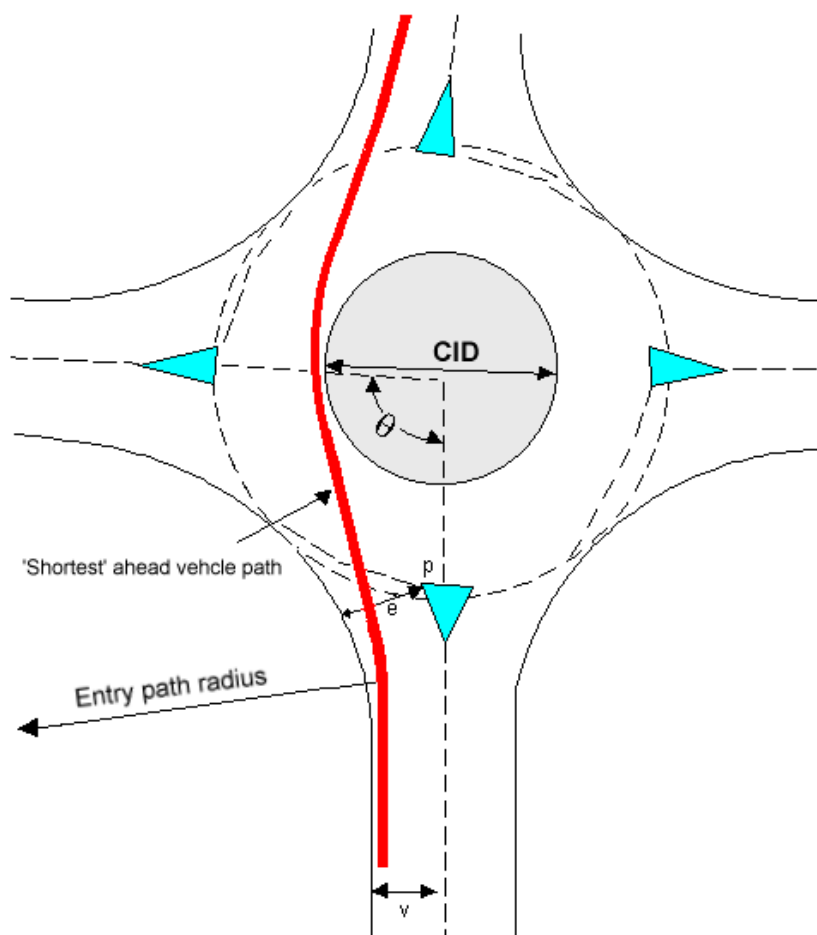

Figure 28-1
curves representing the shortest path the vehicle could take through the roundabout keeping on its own side of the road but otherwise ignoring lane markings. The heavy line in Figure 28-1 represents the locus of one such path.
Normally the path is assumed to start 1 metre from the nearside kerbline (as in Figure 28-1), but it may also start 1 metre from the carriageway dividing line or kerbline of a central reserve, or anywhere between these two points.
Angle between arms: The angle between the approach arm and the next arm is the angle subtended by projections of the relevant approach centre lines as shown in Figure 28-1. If the approaches are curved then the tangents to the centre line at the entry points (P) are used for this construction.